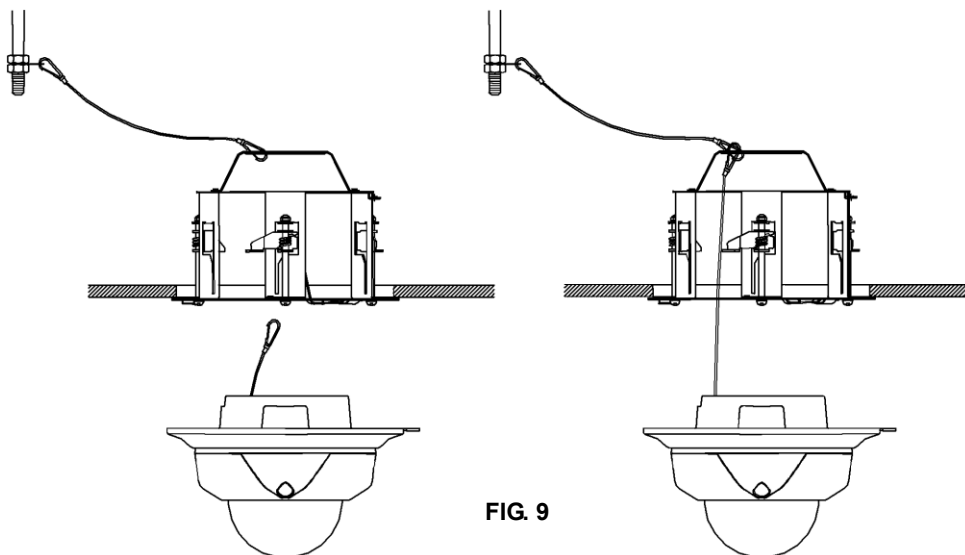

FIG. 9
4. Drive the screw (M4.0) to fix safety wire of camera and hook the safety wire over safety wire hold of embedded mount bracket. (FIG. 9)